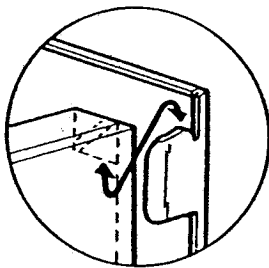

Fig. 85
4. Offer the outer case up to the hooks on the top of the back plate (Fig. 85).